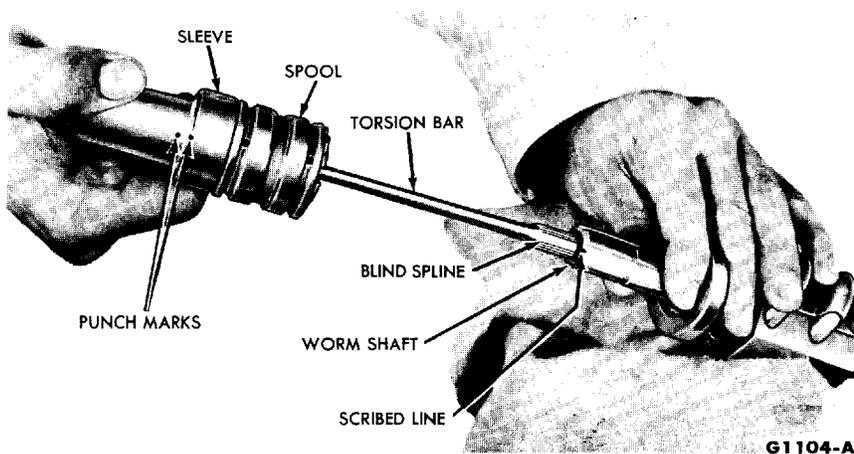

FIG. 18—Torsion Bar Installation
20. Install the torsion bar spring and the actuator on the torsion bar. Turn the lower end of the shaft so that the two identifying punch marks are aligned (Fig. 18). Hold the assembly together and insert the torsion bar into the worm shaft, aligning the blind spline on the torsion bar with the scribed line on the end of the worm shaft. **The torsion bar assembly is properly installed when the valve spool bottoms against the upper bearing and race.**